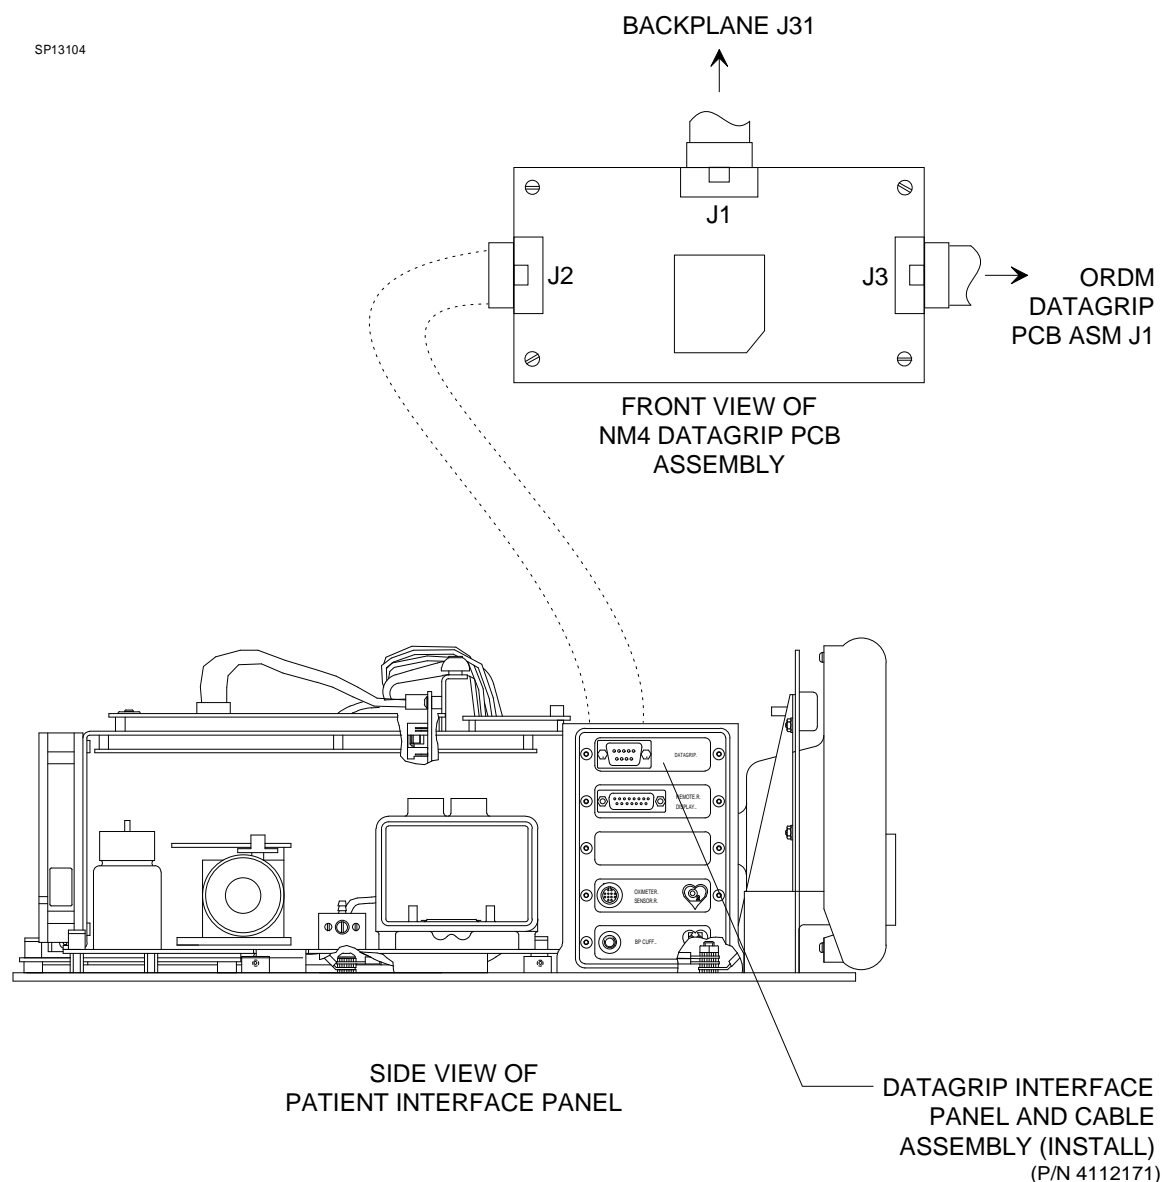

Figure 4: DATAGRIP INTERFACE PANEL AND CONNECTION
22. Connect the cable from the Datagrip interface panel to J2 on the NM4 Datagrip PCB assembly as shown in Figure 4.